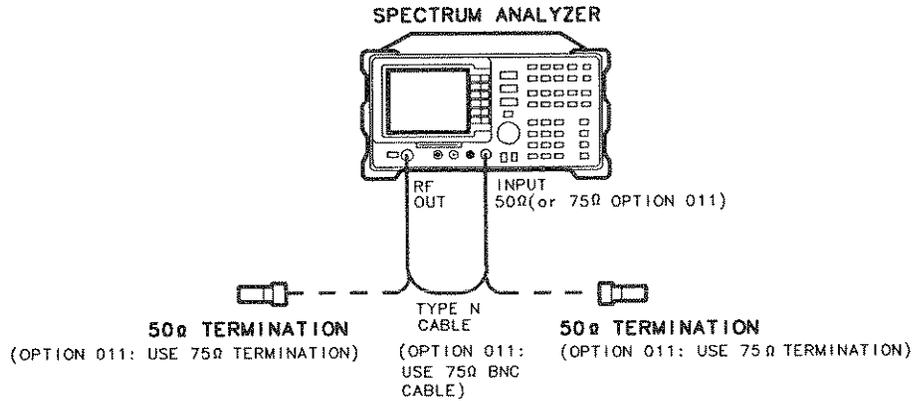

Figure 3-31. Tracking Generator Feedthrough Test Setup
1. Connect the Type N cable between the RF OUT 50Ω and INPUT 50Ω connectors on the spectrum analyzer. See Figure 3-31.